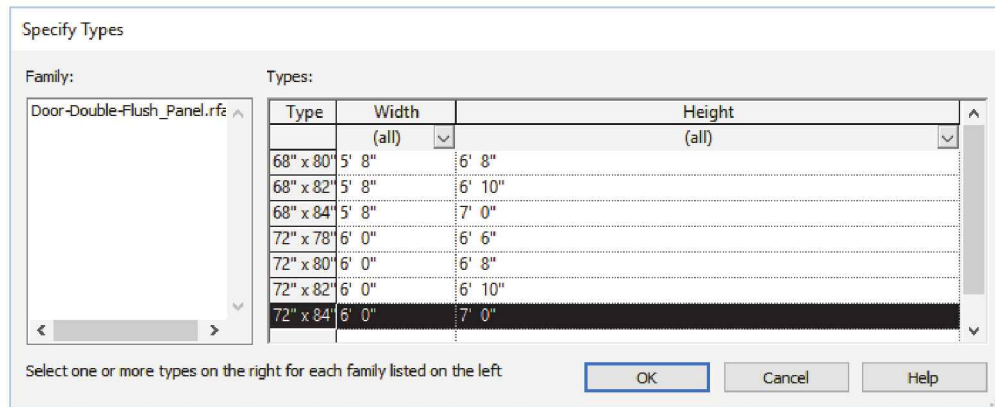

FIGURE 5-4.5 Type catalog for door family being loaded
4. In the *Type Catalog*. Select **72" x 84"** and then click **OK** (Figure 5-4.5).